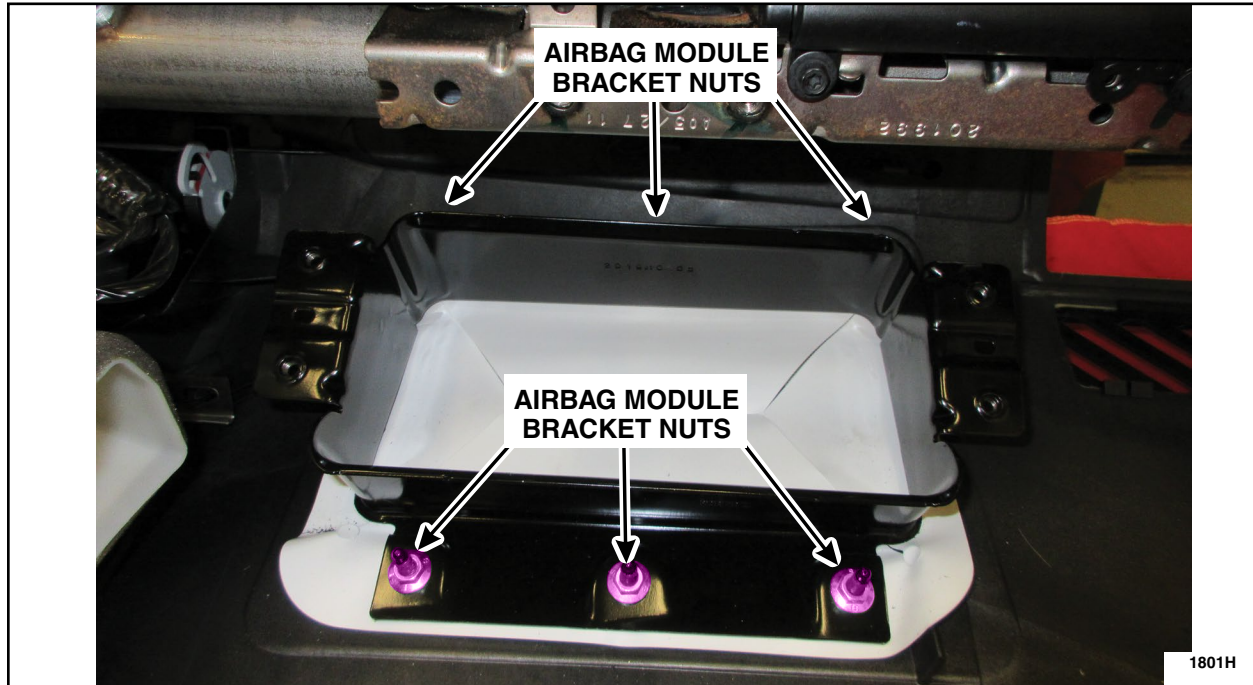

FIGURE 5
5. Remove the six nuts retaining the airbag module bracket to the instrument panel. Remove the bracket from the instrument panel. See Figure 5.
8. Reinstall the airbag module bracket onto the instrument panel. See Figure 5.